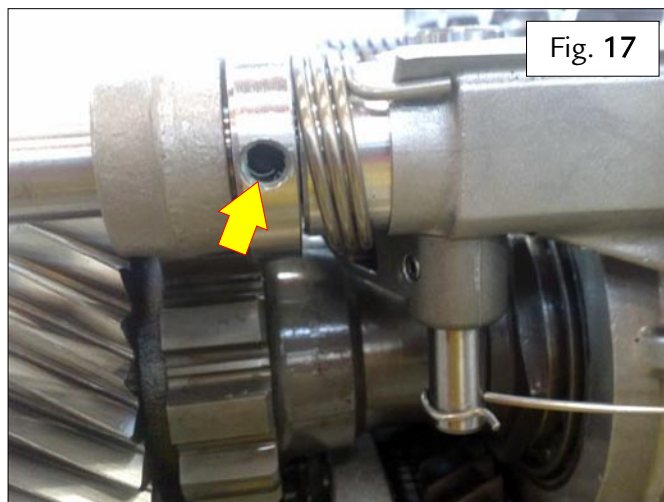

Fig. 17
Ensure that the hole indicated on the Park Lock pin is turned towards the relative hole on the gear housing – Fig. 17.
- Clean the indicated hole to remove all residue of Loctite – Fig. 17.